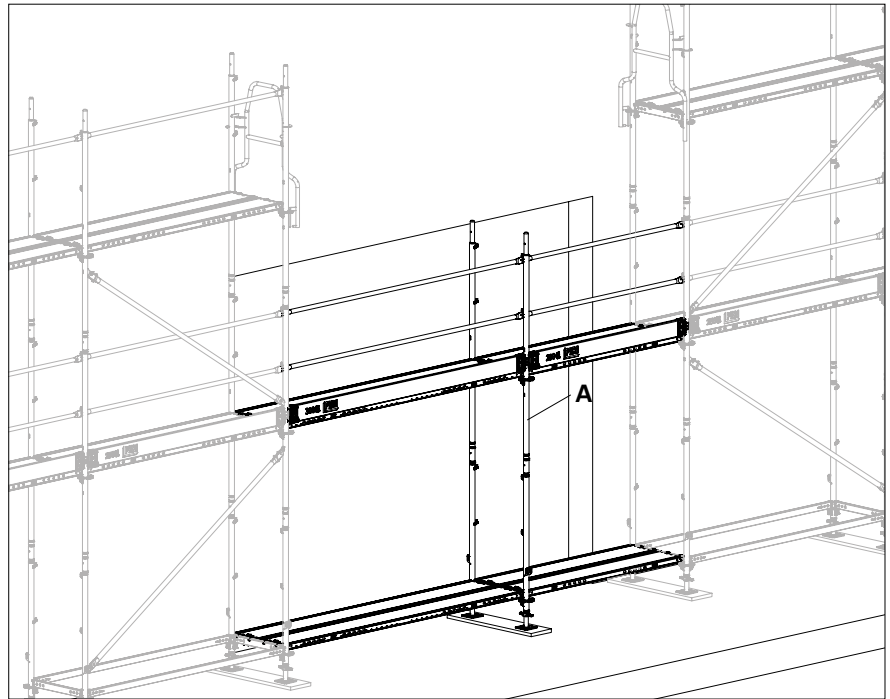

Fig. D5.01
1. Install auxiliary scaffolding in order to assemble bridging. To facilitate the removal of the auxiliary scaffolding, set up the auxiliary scaffolding asymmetrically. This will mean that the frame column (A) will be free-standing at a later time. (Fig. D5.01 + D5.01a)